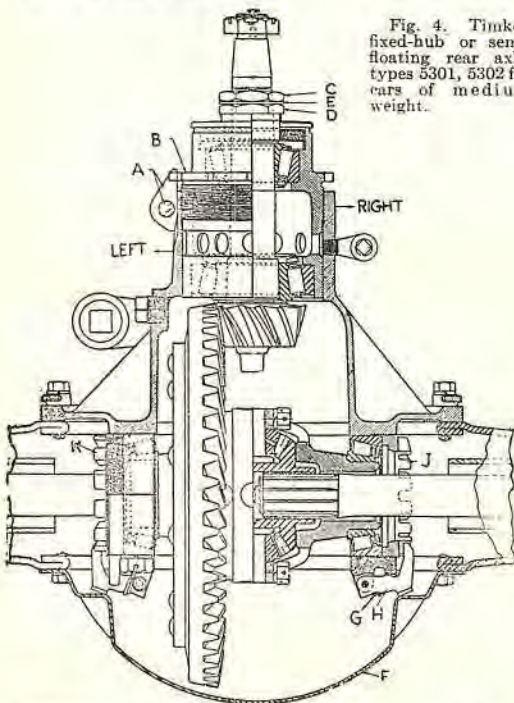
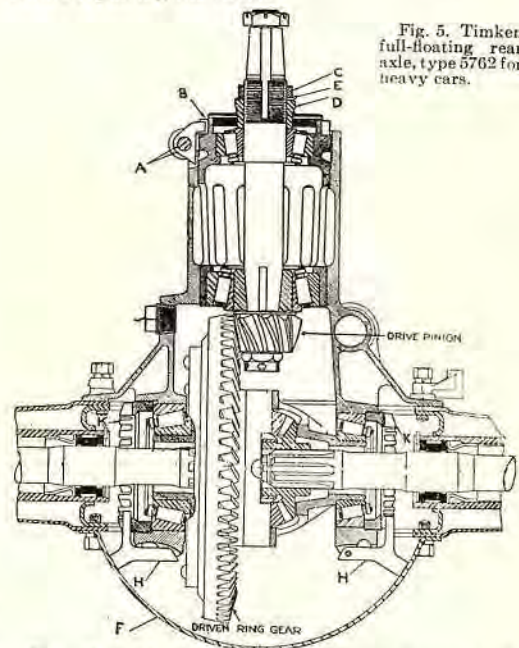

Fig. 4. Timken fixed-hub or semi-floating rear axle, types 5301, 5302 for cars of medium weight.
Fig. 5. Timken full-floating rear axle, type 5762 for heavy cars.
Timken-Detroit fixed-hub or semi-floating rear axles are built in two sizes—series 5151 and 5152 for light cars, and 5301 and 5302 (Fig. 4) for cars of medium weight. Full-floating axles for heavy cars are built in one size only—series 5762 (Fig. 5). The construction of these axles is shown in detail in Figs. 4 and 5. The principles of adjustment are the same in any case; the figures show the slight differences in the details of design.
¹ Timken axles (Figs. 4, 5) could represent either a semi-floating or a full floating axle because the differential supports the inner ends of axle shafts. The next principal feature which determines whether it is a semi-floating or full-floating axle is found in the type of hub used. See also pages 15 and 863.
The rear axle drive pinion and bearing adjustments (Figs. 6, 7, 7A) are on later types of Timken bevel-gear rear axles than those shown in Figs. 4 and 5; however, they also are early models.
Types of differential bearings: Practically all differential assemblies are mounted with a bearing on each side of the ring gear, as shown in Figs. 4 and 5 and other illustrations of rear axles in this book. There are two kinds of bearings in most common use for this purpose, namely, (1) tapered roller bearings, as in Figs. 4 and 5, and (2) angular-contact ball bearings, as in Fig. 8A.